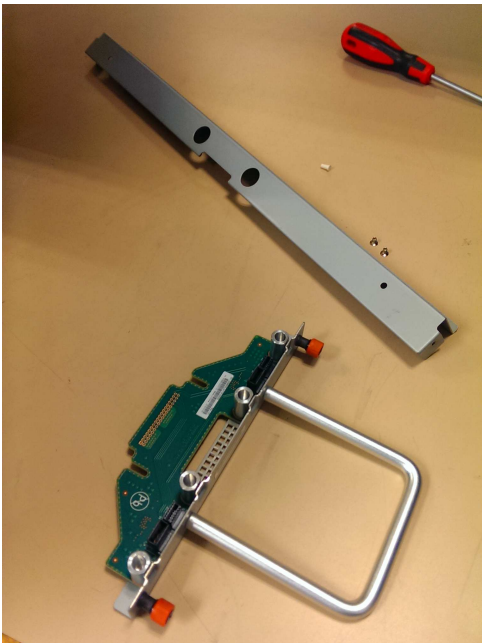

Figure 81. FIB parts for the chassis
1. Assemble the new FIB, cover, and the cover screws (shown in Figure 81) in a safe location.